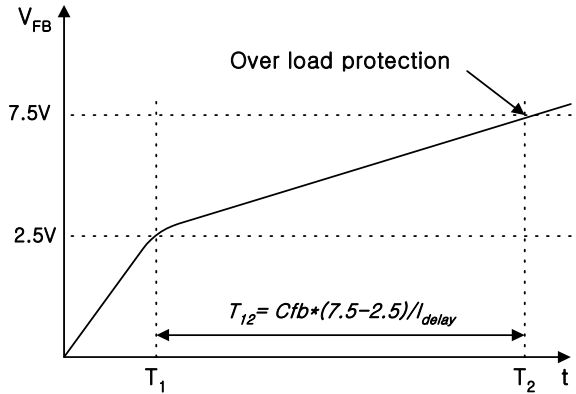

Figure 7. Over Load Protection
**3.1 Over Load Protection (OLP) :** Overload occurs when the load current exceeds a pre-set level due to an unexpected event. In this situation, the protection circuit should be activated in order to protect the SMPS. However, even when the SMPS is in the normal operation, the over load protection circuit can be activated during the load transition. In order to avoid this undesired operation, the over load protection circuit is designed to be activated after a specified time to determine whether it is a transient or overload situation. Because of the pulse-by-pulse current limit capability, the maximum peak current through the Sense FET is limited, and therefore the maximum input power is restricted with a given input voltage. If the output consumes beyond this maximum power, the output voltage ( $V_o$ ) decreases below the set voltage. This reduces the current through the optocoupler LED, which also reduces the optocoupler transistor current, thus increasing the feedback voltage ( $V_{fb}$ ). If  $V_{fb}$  exceeds 2.5V, D1 is blocked and the 2uA current source ( $I_{delay}$ ) starts to charge  $C_B$  slowly up to  $V_{cc}$ . In this condition,  $V_{fb}$  continues increasing until it reaches 7.5V, then the switching operation is terminated as shown in figure 7. The delay time for shutdown is the time required to charge  $C_B$  from 2.5V to 7.5V with 2uA. In general, a 10 ~ 50 ms delay time is typical for most applications.